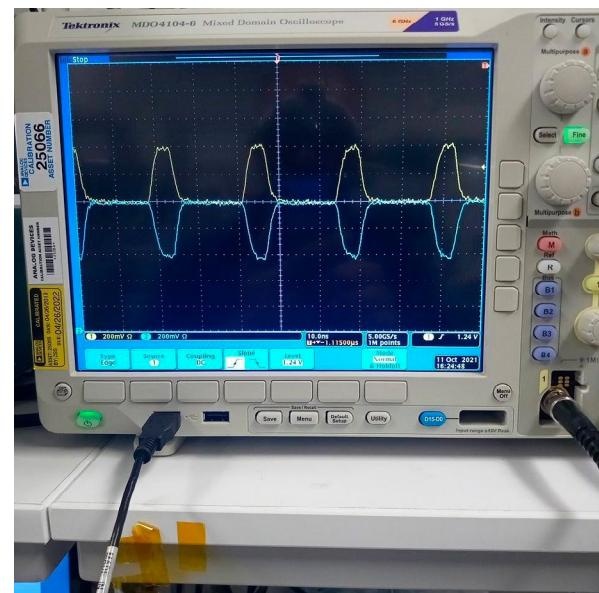

Figure 8. OUT and OUTBAR Typical Waveforms
11. With a $5ns$ duration laser pulse width from this light source, the Figure 8 typical scope waveforms can be